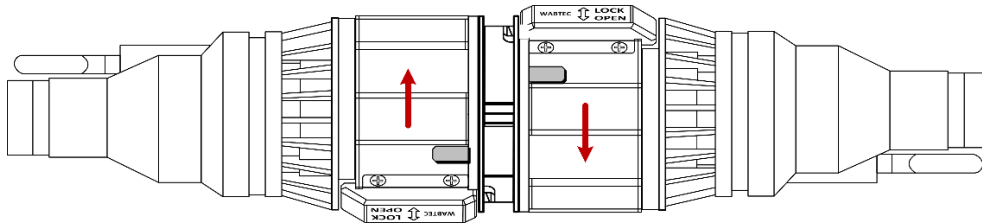

Figure 24: Connectors Partially Mated and in the Open Position
3. Turn the Rotatable Coupling Ring on each Inline Connector in the direction of the arrows in Figure 24 so that the Inline Connectors are both in the Open position.